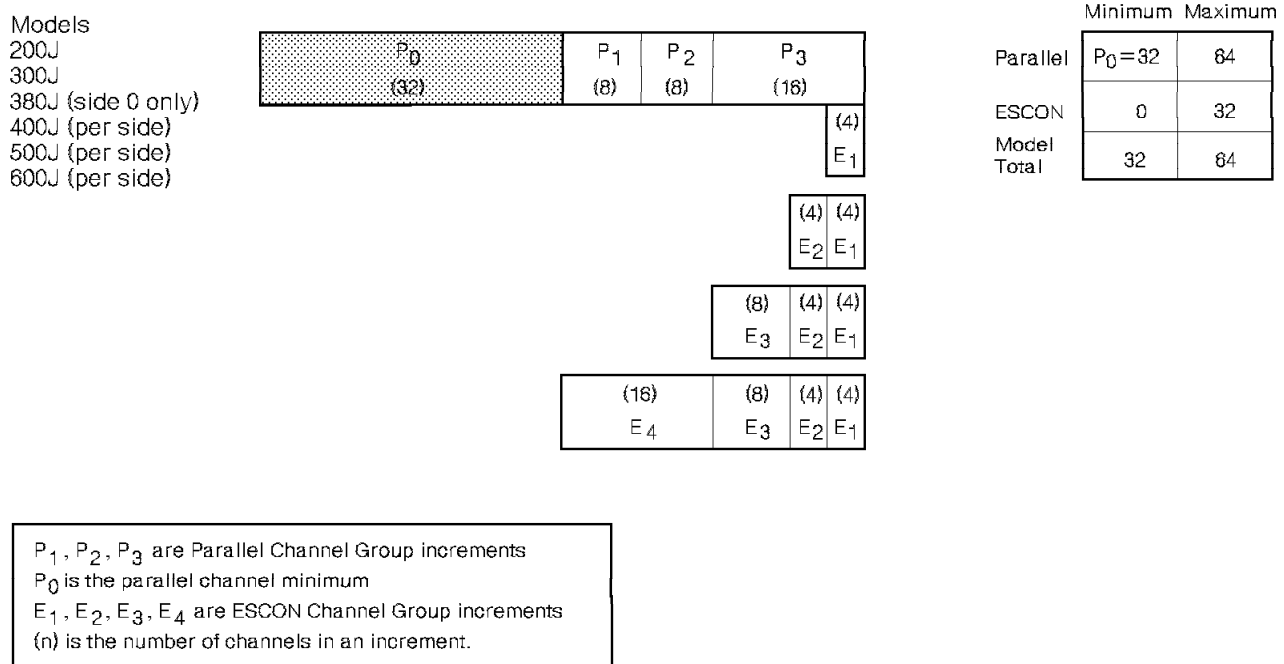

Figure 9. Channel Arrangement for ES/3090J and ES/3090-9000T Processors where ESCON channels may displace parallel channels.
- Models that have a maximum of 64 parallel channels per side. Displacement may occur here (see the unshaded area of Figure 9).
For example, consider an ES/3090 model 200J fully configured with its maximum of 64 parallel channels (32 minimum channels with CHPIDs 00 through 1F and channel group increments of 8, 8, and 16 with CHPID addresses 20 through 27, 28 through 2F, and 30 through 3F, respectively). Refer to Figure 9. The installation of the first ESCON channel group of four channels would use the CHPID addresses 3C through 3F and require removing the last parallel channel group (16 channels with CHPID addresses 30 through 3F). This results in a loss of 12 CHPIDs. The first three ESCON channel group increments (four, four, and eight channels) would have to be installed together to provide an equivalent number of channels.
When adding ESCON channels to an ES/3090J or ES/3090-9000T system, it may be necessary to remove parallel channels other than those that are being replaced by the ESCON channels. The installation of ESCON channels requires that any parallel channel group 3 (P3), (CHPID addresses 30 through 3F), if installed, be removed. Refer to Figure 9 on page 58 for illustration of the potential channel displacement. If the processor being upgraded has the parallel channels in these locations, the following migration options are available for those channels being removed: